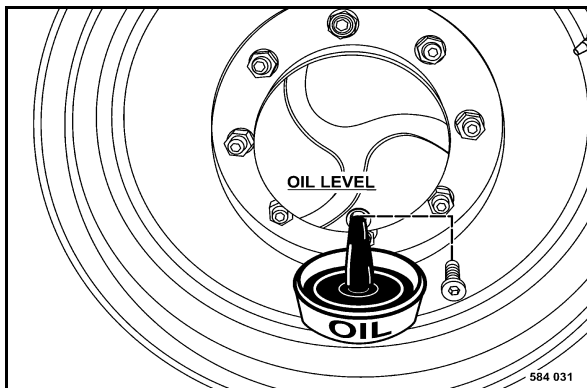

Fig. 175
- Move the drive wheel, until the plug (Fig. 175) is in bottom position.